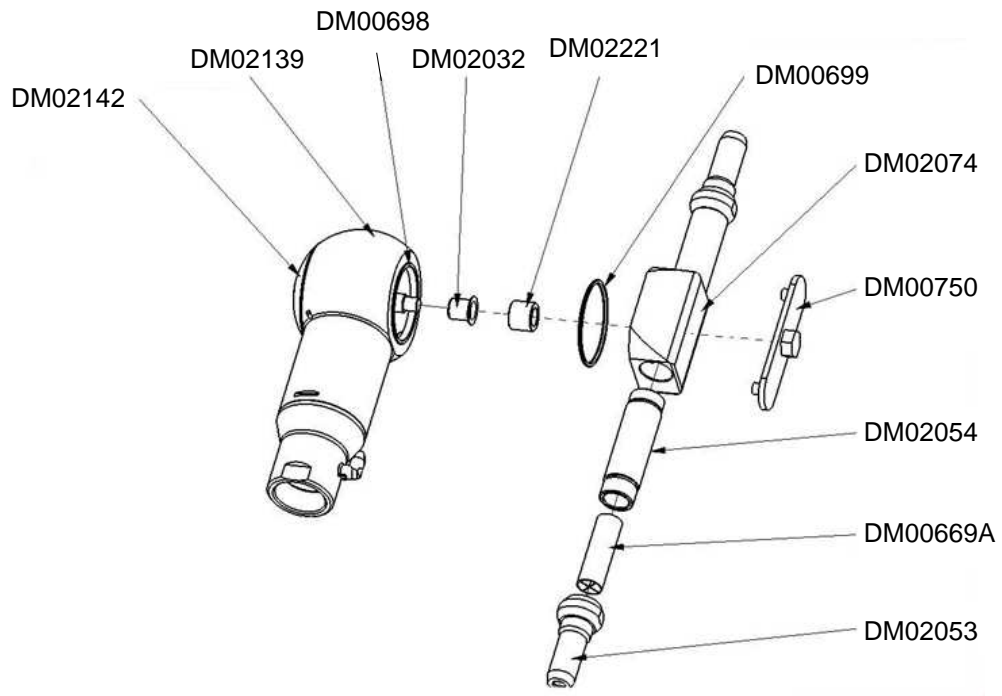

Figure 13: Hi-Capacity Orbitor
14. For Hi-capacity version see Figure 13.
8. For Hi-capacity version, see Figure 13.
Hi Capacity Components – Refer to Figure 13